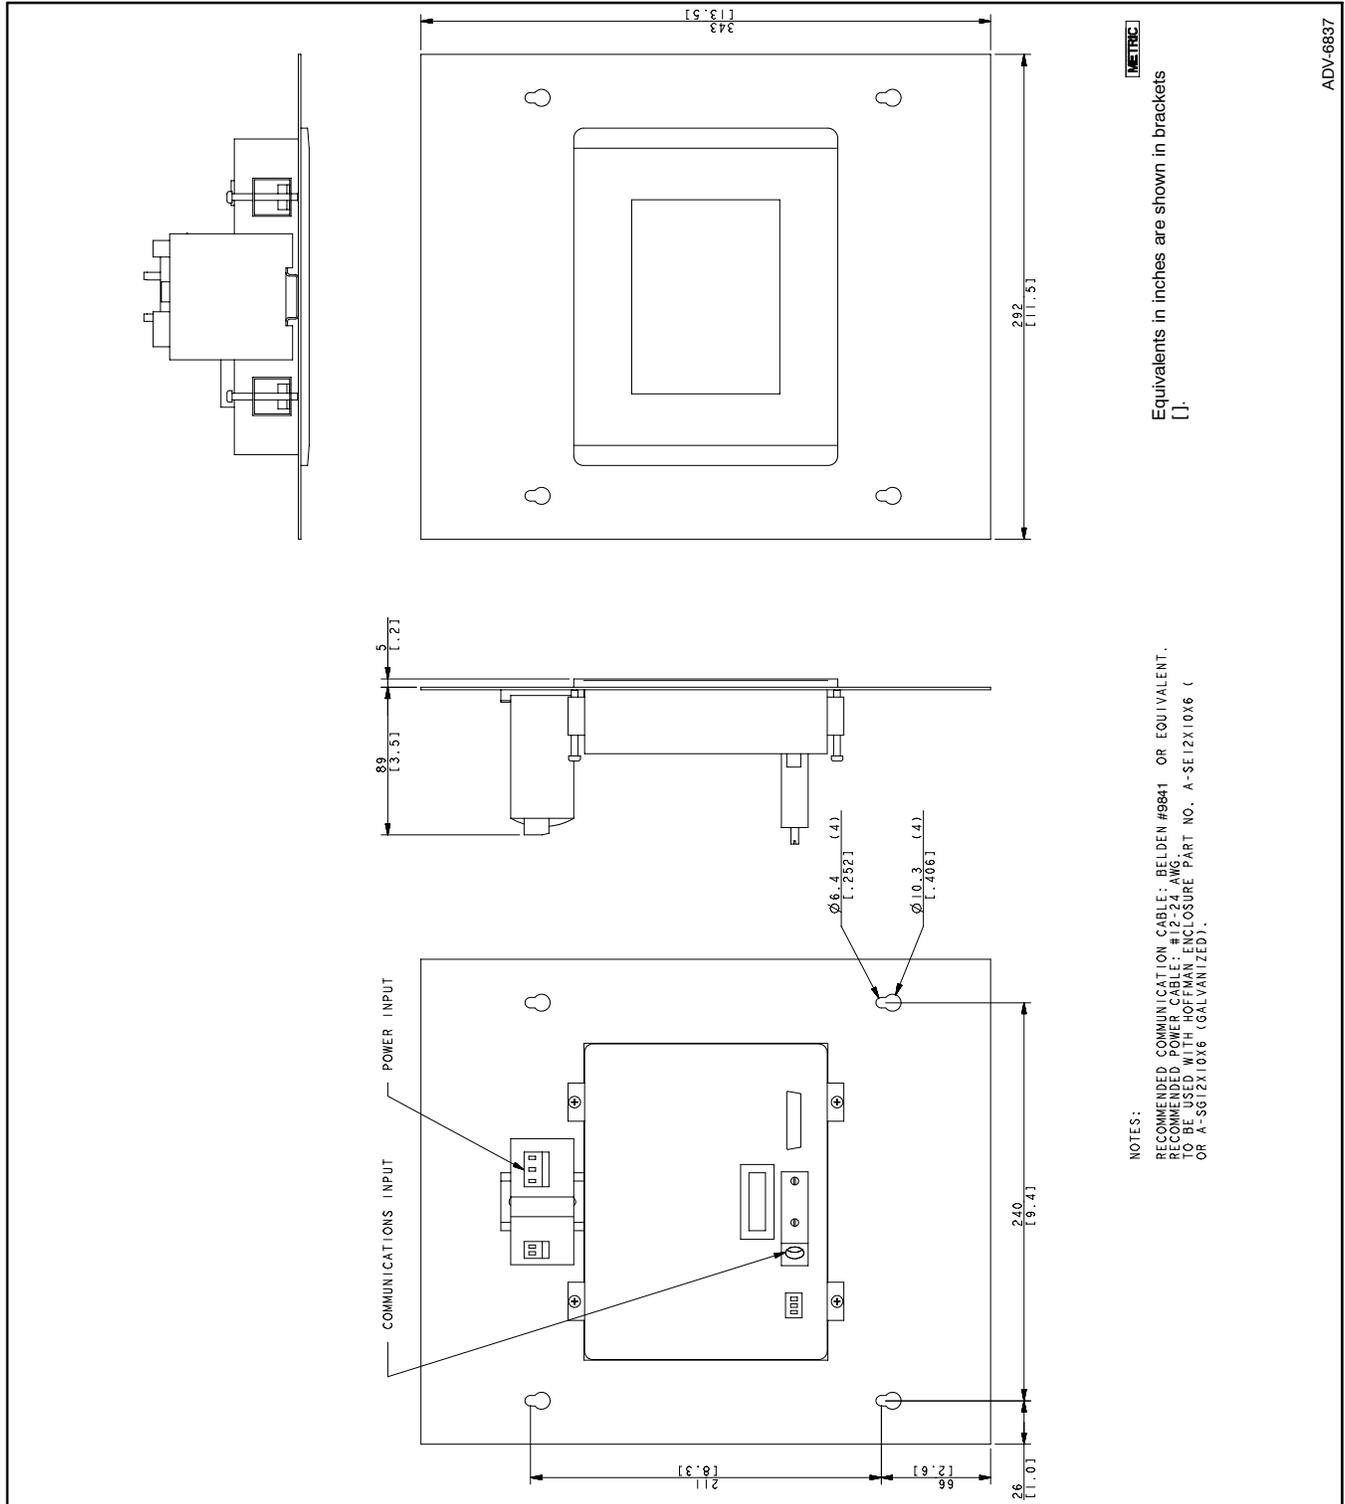

Figure 5 Dimension Drawing, Flush-Mounted Annunciator, Kit Part Numbers GM49280-KP1 and GM49280-KP1S
2. Select a location for the mounting plate that provides adequate clearance and depth for the annunciator, power supply, and connectors. See Figure 5. Use the dimensions shown in Figure 5 or use the mounting plate as a template to mark and drill holes in the mounting surface. Remove burrs and metal chips.